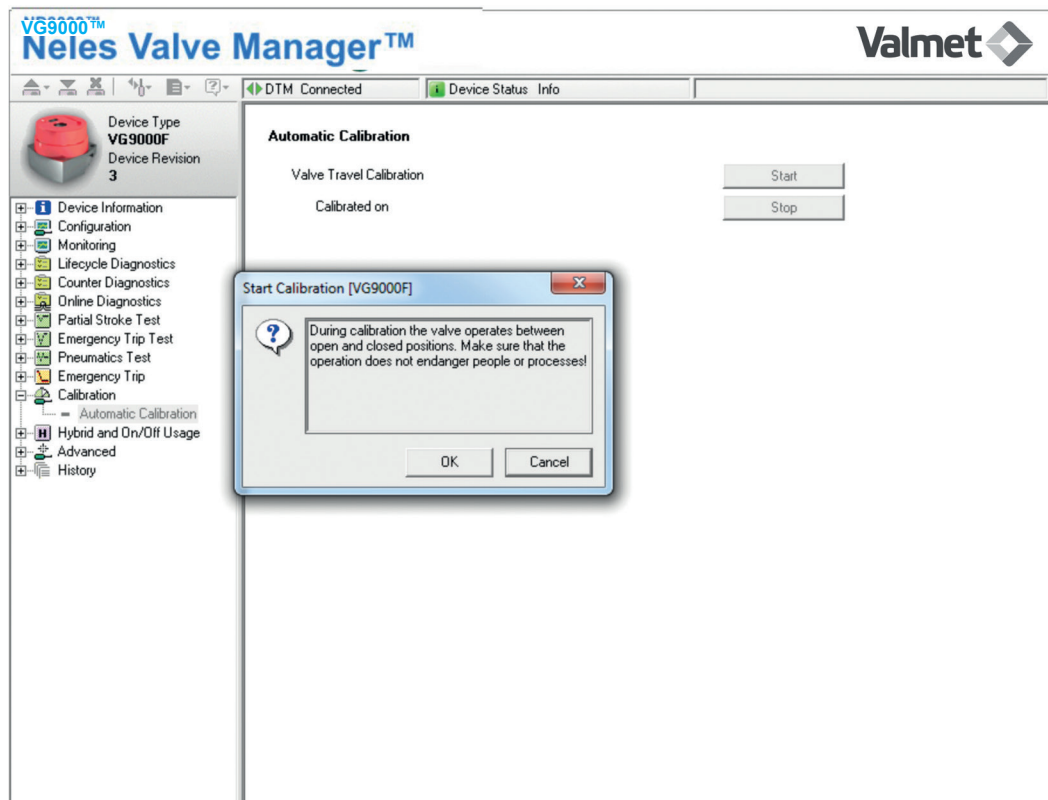

Figure 2. Automatic Calibration in Neles Valve Manager (DTM)
5. Run the calibration by selecting "Start automatic travel calibration". See Figure 2
Run the calibration by selecting "Start automatic travel calibration". See Figure 2